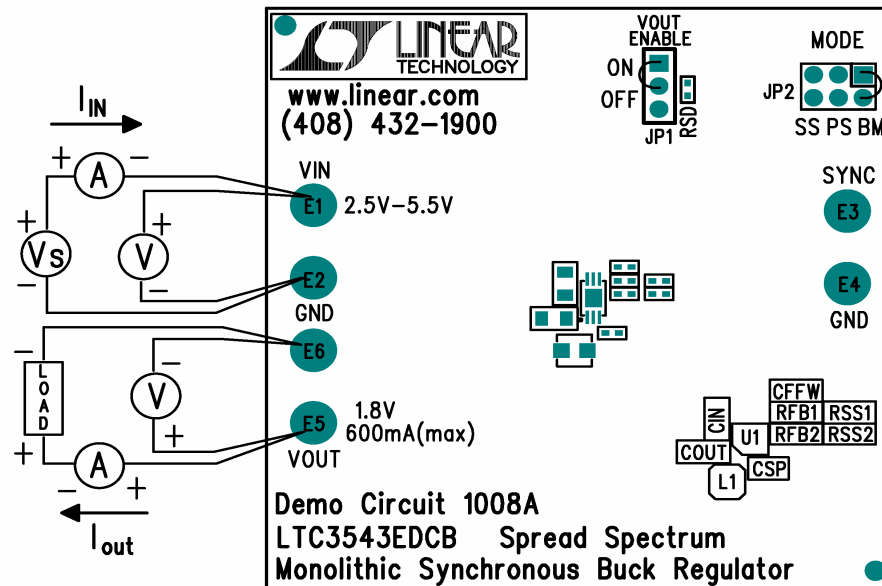

Figure 2. Proper Equipment Measurement Set-Up
Demonstration Circuit 1008 is easy to set up to evaluate the performance of the LTC3543. For proper measurement equipment configuration, set up the circuit according to the diagram in **Figure 2**. Before proceeding to test, insert shunts into the OFF position of header JP1, which connects the RUN pin to ground (GND), and thus, shuts down the circuit, and the pulse-skip position (PS) of header JP2.
With the DC1008 set up according to the proper equipment measurement configuration in **Figure 2**, apply 3.3V at Vin (Do not hot-plug Vin or increase Vin over the rated maximum supply voltage of 5.5V, or the part may be damaged.). Measure Vout; it should read 0V. If desired, one can measure the shutdown supply current at this point. The supply current will be approximately 1  $\mu$ A, or less, in shutdown.